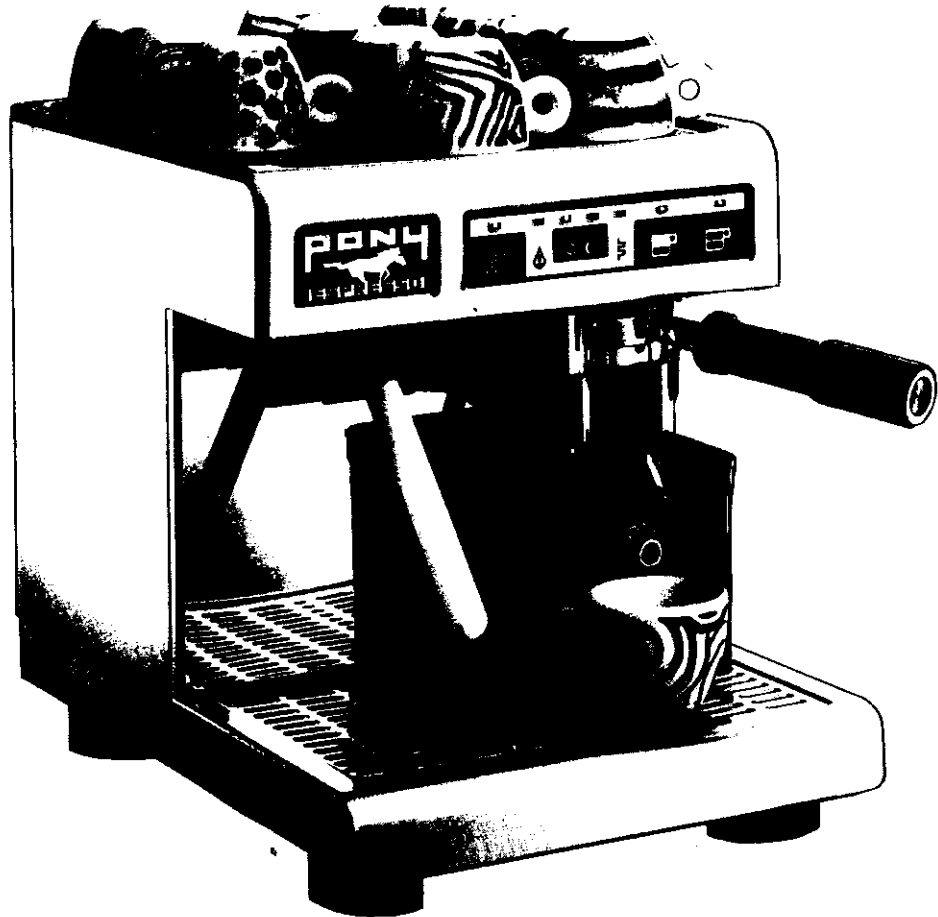

Fig : 1
- Switch on position "1" (Rep. C Fig. 1).
- After each infusion, a small quantity of water is ejected into the drip tray (Rep. D, Fig. 1). You should empty the drip tray after 30 infusions.